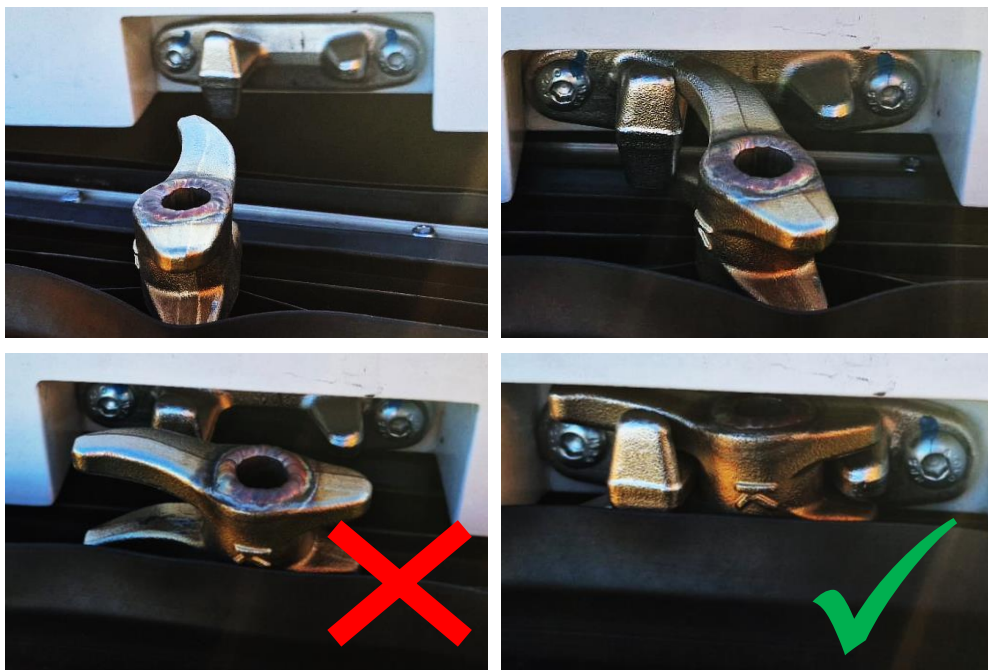

Figure 20 – Correct position of the two door cams.
2. When the door seal touches the structure, make sure the two cams hooks the keeper (Figure 20);